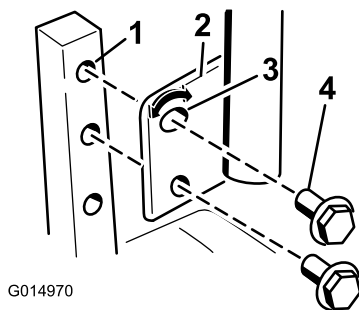

Figure 25
1. Remove the 2 bolts and 2 washers holding the control lever to the control arm shaft (Figure 25).
2. Move the control lever to the next set of holes. Secure the lever with the 2 bolts and 2 washers (Figure 25).